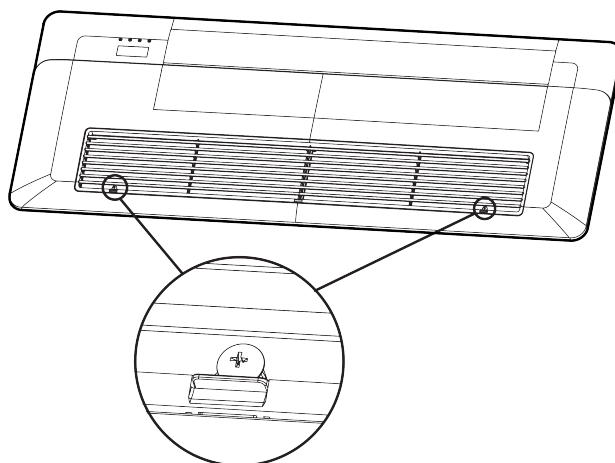

Fig.4.4.5
- (1) Remove the grille from the panel, and then open the horizontal louver.
- (2) Aim the screw hole on panel at the corresponding screw hole on main unit.
- (3) Screw up the screws on corresponding holes and then install the corresponding screw cover.
- (4) Close the horizon louver, connect the butt terminal and arrange the wires.
- (5) After tightening screws, reinstall the air inlet grille.
- (6) Fit the two screws in the panel accessory, please refer to Fig.4.4.5.